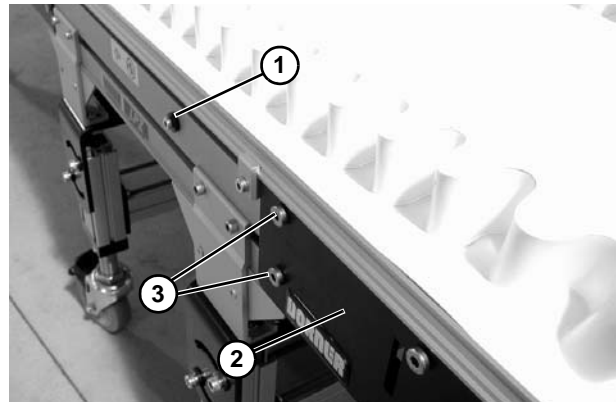
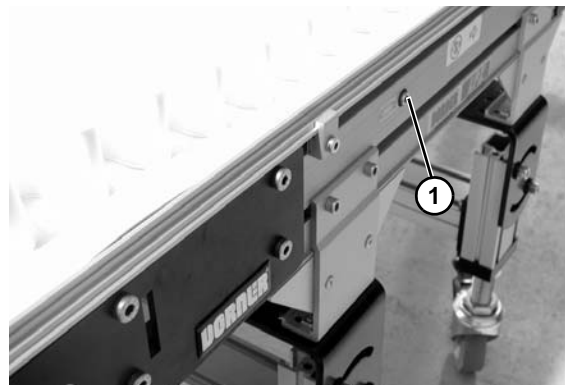

Figure 22
Figure 23
4. On tension end of the conveyor, identified by the pinion locking screw (**Figure 22, item 1**), push in head plate assembly (**Figure 22, item 2**): Loosen the pinion locking screw (**Figure 22, item 1**), adjust the pinion torque screw (**Figure 23, item 1**). On both sides of conveyor, loosen the two tail clamp bolts (**Figure 22, item 3**), and push head plate assembly (**Figure 22, item 2**) inward.